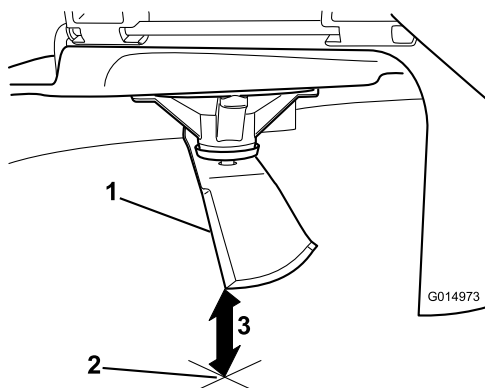

Figure 48
5. Measure from the tip of the blade to the flat surface (Figure 48).